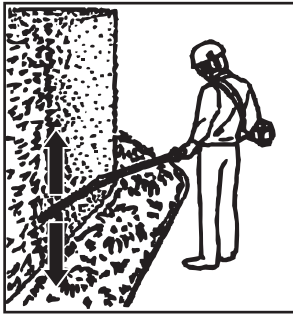

Fig. 27
1. Make sure that the blade cover (16) is removed, and the battery pack (32) is assembled before operation.
5. Always hold the product firmly with both hands on soft grip (7a) of the rear pole (7) and the rear handle (1). Never operate this product using only one hand.
7. First cutting both sides from the bottom upwards to the top. This will prevent any of the cuttings falling into the path of the area still to be cut (Fig. 27).